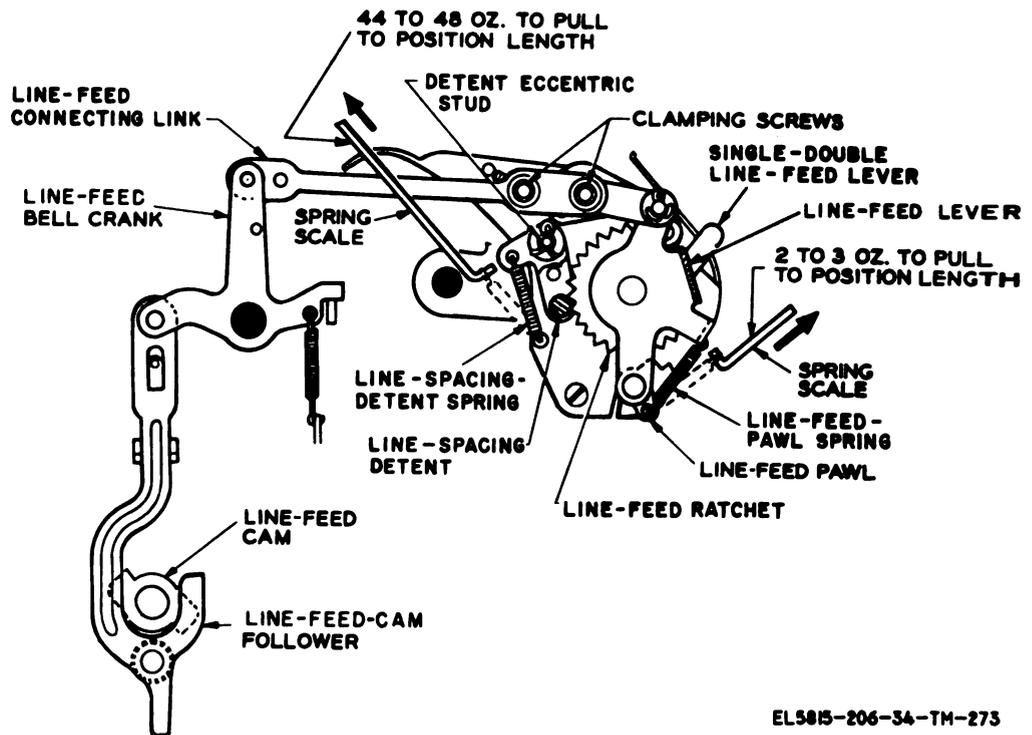

Figure 3-201. Line-feed mechanism, side view (TT-4A/TG and TT-698/TG).
(fig. 3-201 and 3-202)
(1) Loosen the clamping screws (fig. 3-201). Select the line-feed combination and turn the motor manually until the line-feed-cam follower is against a high part of its cam. Rotate the line-feed lever until the platen has advanced one line space. Tighten the clamping screws. Continue turning the motor until line-feed operation is completed.
(2) Check the requirement (a(2) above) visually.